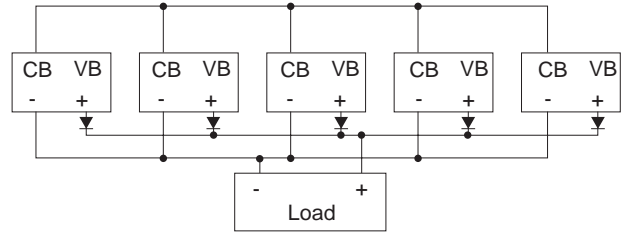

Fig.5.9 N+1 redundant operation which uses diode
- ⑤ Please refer to Fig.5.9 when making the circuit where the diode is used and reliability is high.